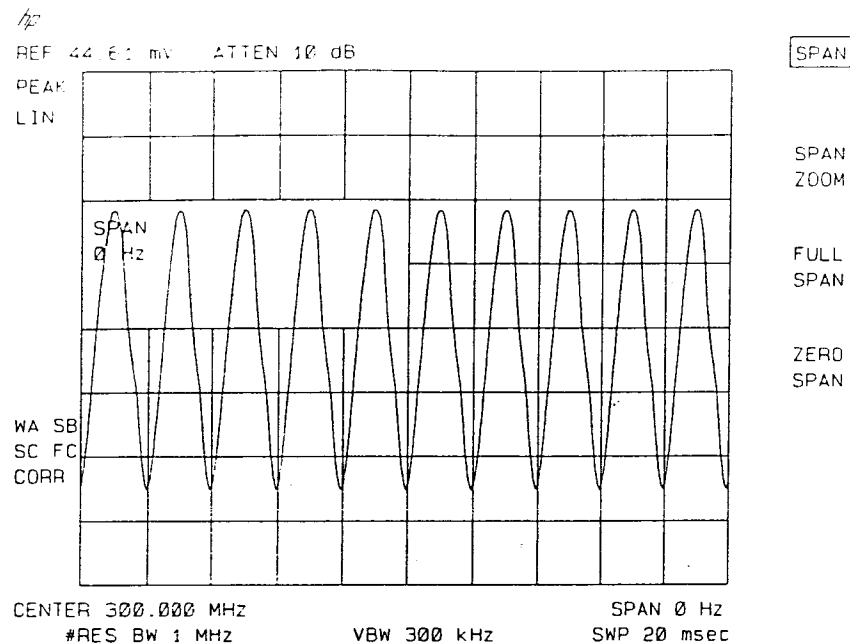

Figure 2-27. Measuring Modulation in Zero Span
5. To select zero span, either press **[SPAN]**, **0 [Hz]** or press **ZERO SPAN**. See Figure 2-27. If the modulation is a steady tone (for example, from a signal generator), use video trigger to trigger on the waveform and stabilize the display. Adjust the sweep time to change the horizontal scale.